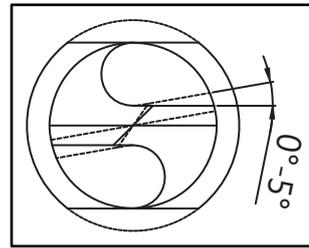

Fig. 4-8
- ✘ The cutting edge can be angled towards the slot of clamping nut but no more than 5° (Fig. 4-8), but the cutting edge cannot be angled away from the slot of clamping nut.